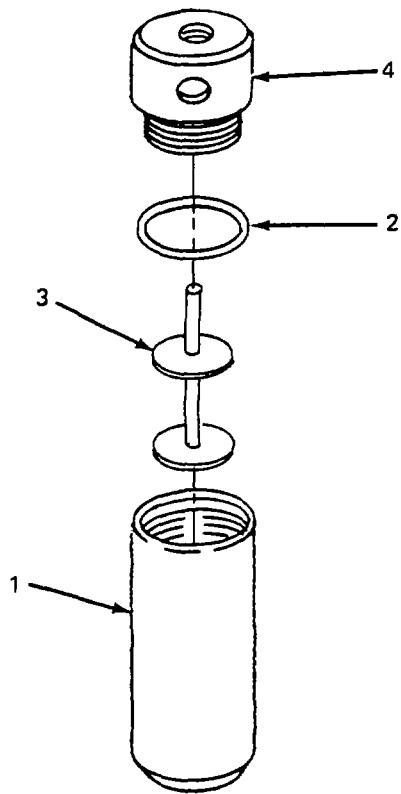

Figure 5-12. Final Separator, Repair.
- b. Repair. (figure 5-12)
- (1) Remove final separator (para. a.).
- (2) Unscrew filter bowl cylinder (1) and remove.
- (3) Remove preformed packing (2). Discard preformed packing (2).
- (4) Remove tube assembly (3).
- (5) Inspect filter bowl cylinder (1) and replace if dented, cracked, or threads are stripped.
- (6) Inspect tube assembly (3) and replace if bent, cracked, or other damaged.
- (7) Inspect end cap (4) and replace if cracked, or threads are damaged.